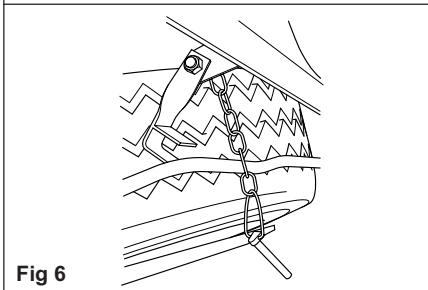

Fig 6
- Lift the wheel carrier frame slightly and move the frame supports (b) forward and clear of the carrier frame (Fig 6).